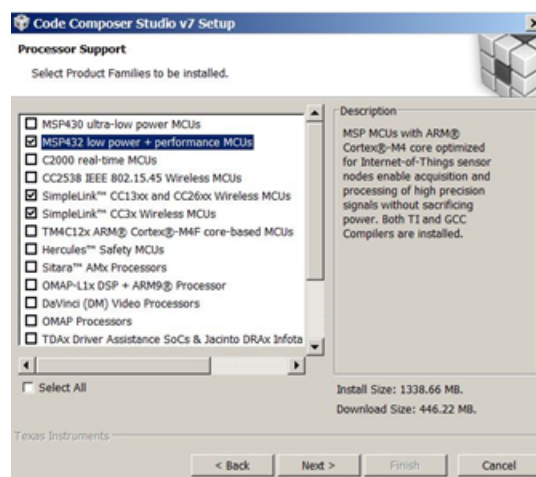

Figure 31. CCS Setup – Choosing CC32xx SimpleLink Devices
- Ensure to select the SimpleLink CC3x Wireless MCUs option for processor support as shown in Figure 31.